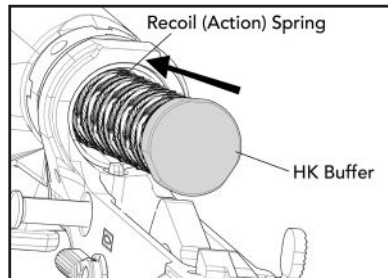

Fig. 55 – Installing buffer & action spring
- d. Ensure that the hammer is in the down (cocked) position before attempting to install the buffer and action spring. Mount the action spring onto the buffer and insert the buffer and spring into the receiver extension. Push back on the buffer far enough until the buffer is retained by the spring loaded buffer detent (Fig. 55).